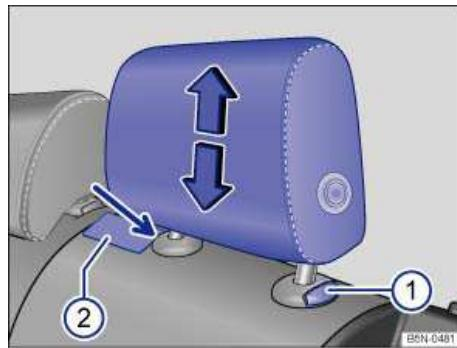

Fig. 50 Removing the rear head restraints.
- Slide a flat object, such as a plastic credit card, underneath the right side of the cap on the right-hand seat guide rod ⇒ fig. 50 \(2\) to unlock the head restraint.
- To release the left-hand guide rod, press button (1) in (towards guide rod) and hold.
- Pull the head restraint out completely while holding button (1).